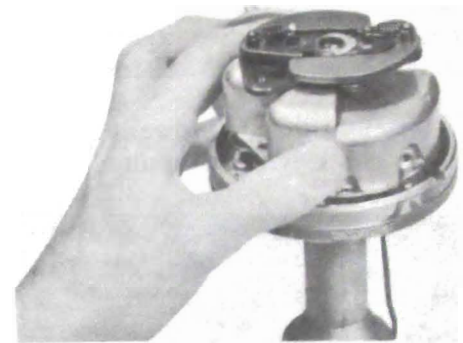

Figure 68-35 Installing Ignition Point Shield
4. Install ignition point shield, making sure of correct positioning to insure against leakage and a short circuit. See Figure 68-35.